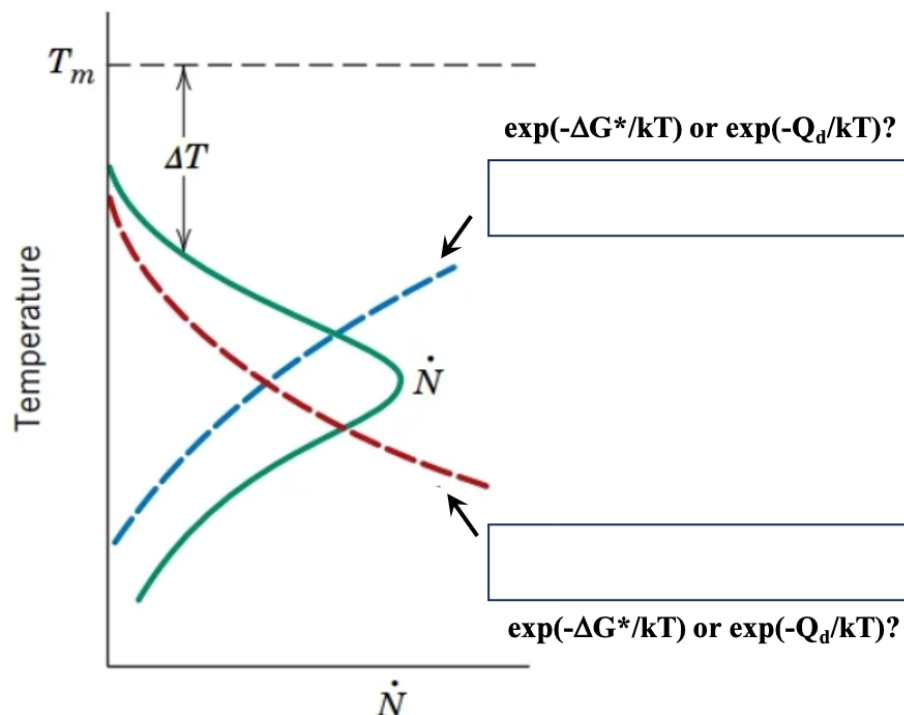

Figure 12: Nucleation rate versus temperature for nucleation of a crystalline solid from the melt.
where the temperature (T) dependence is determined by the two exponential terms written in terms of the temperature-dependent free energy barrier for nucleation (ΔG^*) and the temperature-independent activation energy for diffusion (Q_d). Shown in Figure 12 is a plot of $\dot{N}$ for a phase transformation involving nucleation of a crystalline solid from the melt. The nucleation rate in Figure 12 is plotted as a function of temperature, and ΔT is the amount of undercooling below the melting temperature (T_m).
Also shown in Figure 12 by the dashed lines are the two exponential terms $\exp(-\Delta G^*/kT)$ and $\exp(-Q_d/kT)$, the product of which determines the temperature-dependence of the nucleation rate. From your knowledge of the temperature dependencies of these terms, write in the boxes in Figure 12 which dashed line corresponds to $\exp(-\Delta G^*/kT)$ and which corresponds to $\exp(-Q_d/kT)$.